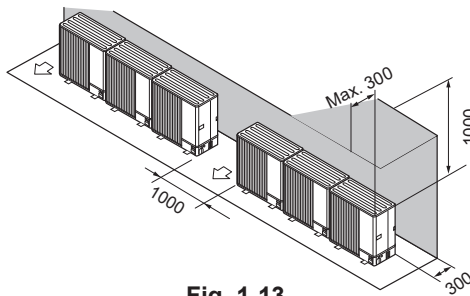

Fig. 1-13
- ② Obstacles at rear and above only (Fig. 1-13)